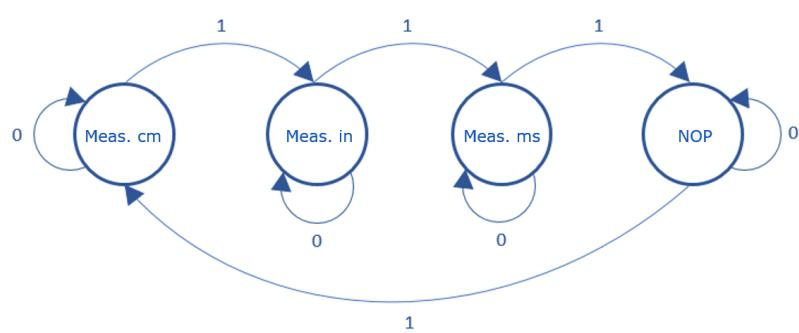

Figure 4.3: Finite State Machine
- The implemented code can be related as the final state machine shown in fig. 4.3. The transition variable is the button that the user press each type he wants to do something different with the sensor.